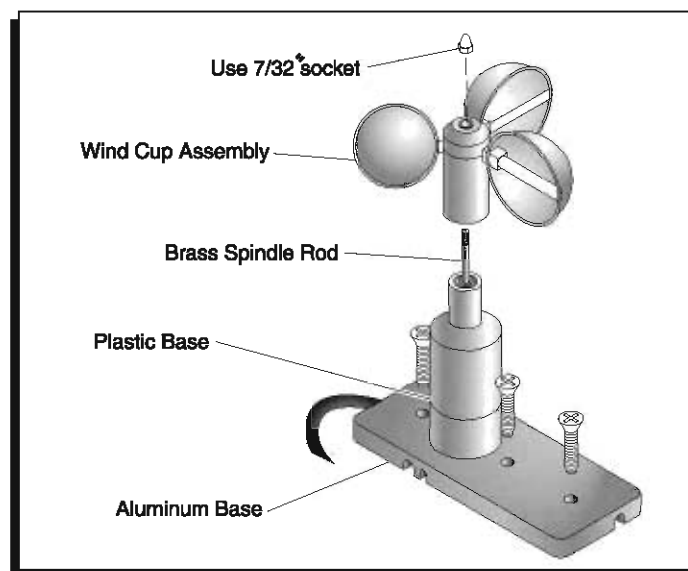

FIGURE 11
- 4) Using gentle force pull wind cup assembly straight up off of anemometer base (See Figure 11).